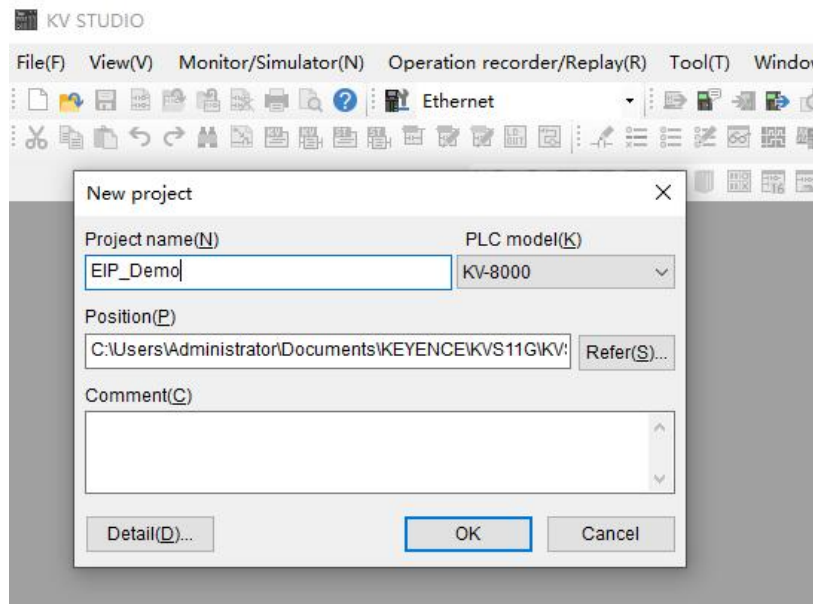

Figure 5-1-2
- As shown in Figure 5-1-2, a new project dialog box pops up. Fill in the project name and storage path,